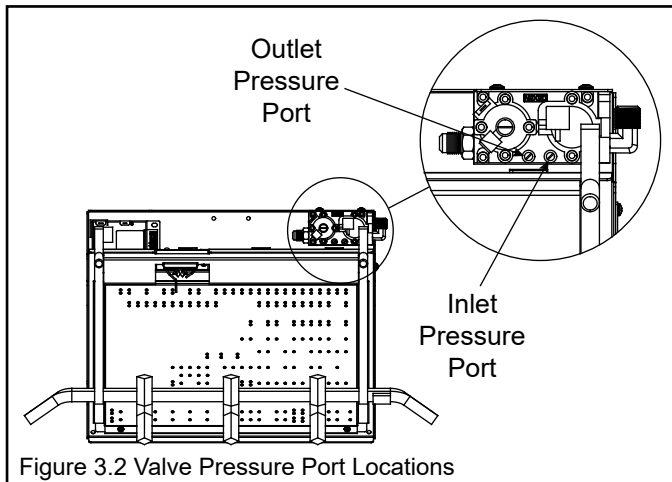

Figure 3.2 Valve Pressure Port Locations
1. Turn captured screw counterclockwise two or three turns. See Figure 3.2.